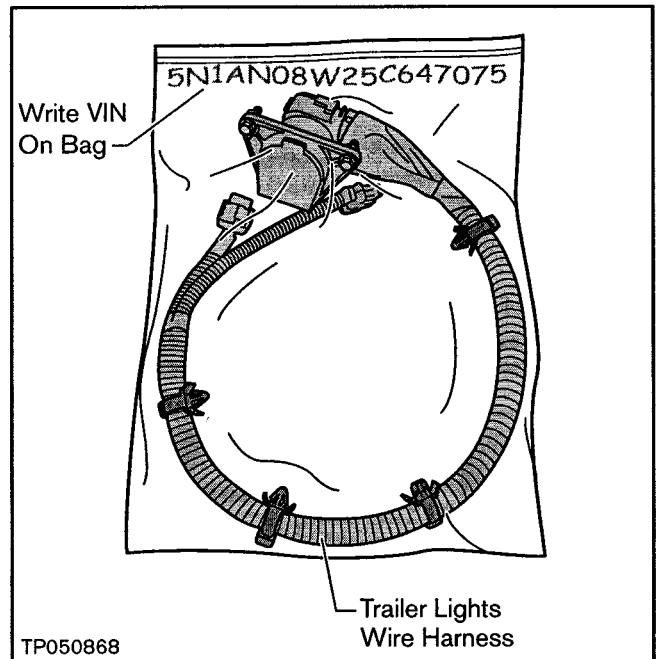

Figure 8
8. Place the removed Trailer Lights Wire Harness in a sealed plastic bag with the VIN written on the bag (see Figure 8).